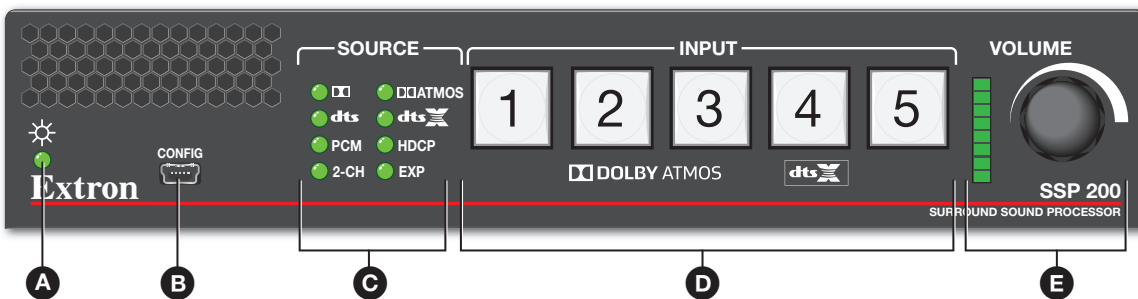

Figure 3. Front Panel Features
- For control through USB, connect a host device to the front panel USB mini-B port (see figure 3, **B**, on the next page).